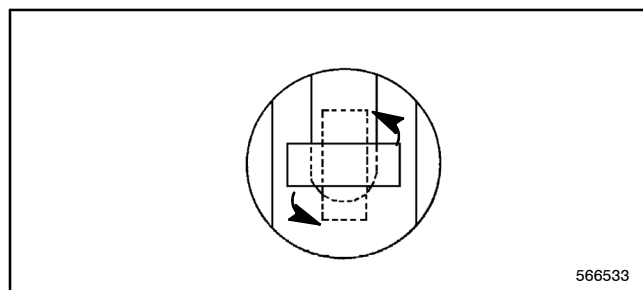

Figure 2-7 Panel Latch Rotation
7. Rotate the four panel latches to the vertical position. See Figure 2-7.